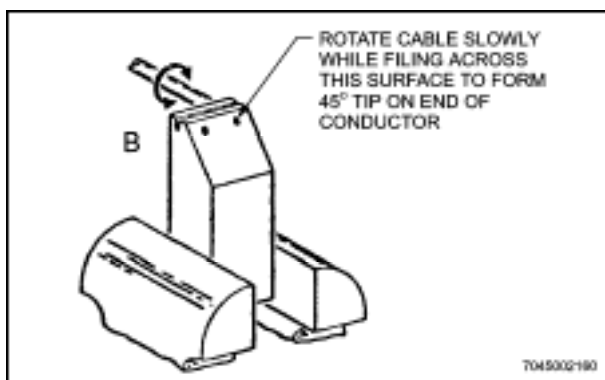

Figure 12-54 Pointing the Cable End
- Re-insert cable into cable dressing fixture for pointing. Keep pressure against fixture and rotate cable slowly while filing on 45° surface (Figure 12-54) with a small pillar file or mill file. Continue filing until conductor offers no resistance to the file.